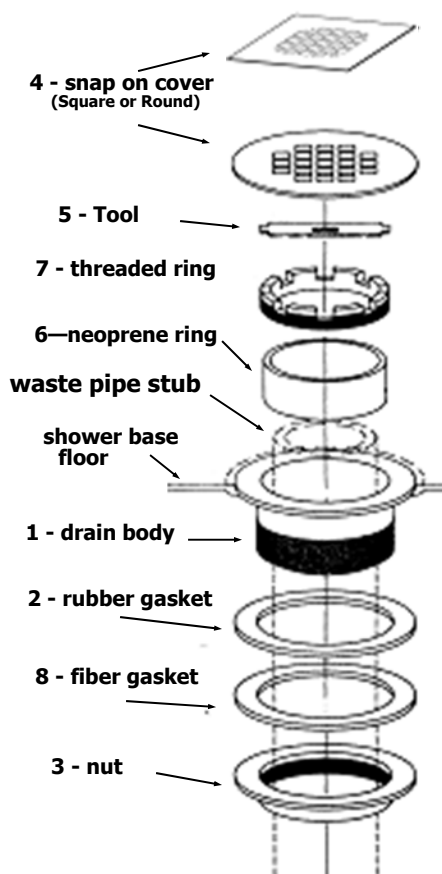

Figure 1
Note: Be sure the opening in the sub-floor or slab is a minimum of 5" (12" for Barrier Free bases) and the waste stub pipe is central with the opening and extends at least 1" above the floor (See figure 1). Bases with a 48" or greater dimension may require a larger opening in order for the base to sit properly on the sub-floor or slab.
3. Install the drain body (figure 1) on the shower base **before** installation as follows:
- a. Place the drain body (1) through the 3¼" hole in the shower base with the threads extending through the bottom side.
- b. Place the rubber gasket (2) over the threads so that the gasket rests flush against the bottom of the shower base.
Prepare the drain joint between the waste pipe and drain fitting as follows (see items in Figure 1):